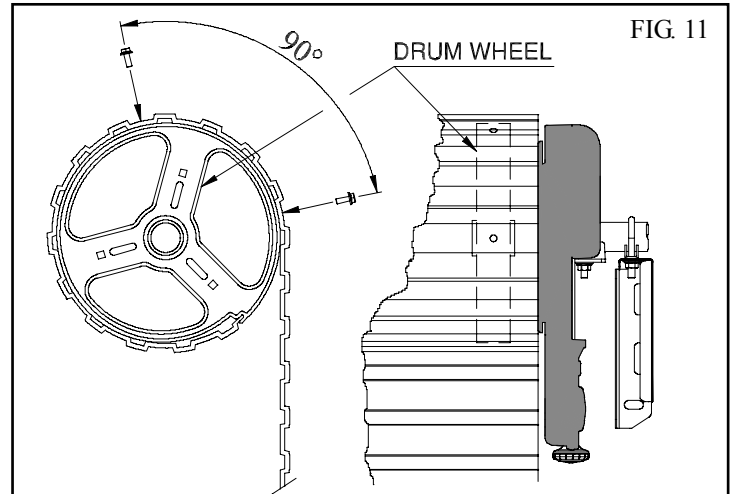

FIG. 11
1. With the door in the fully closed position, mark the curtain (Fig. 11) on both ends of the door.